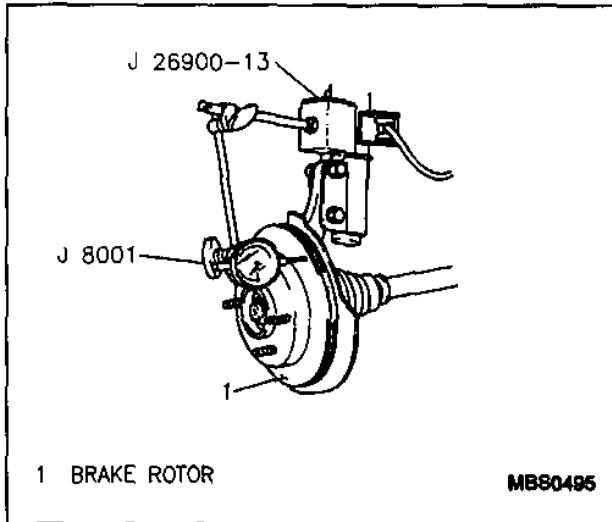

Figure 3—Measuring Rotor Lateral Runout
5. Fasten a J 26900-13 and a J 8001 to the strut so that the indicator button contacts the brake rotor about 10 mm (0.39 in.) from the rotor edge (Figure 3).